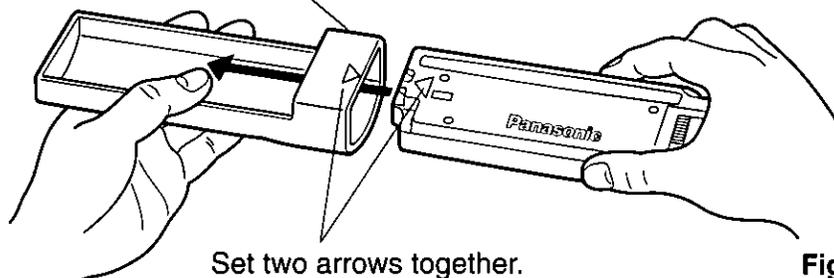

Fig.3
- ④ As shown in Fig.3, insert the removable face plate with the arrow pointing toward the removable face plate case until you hear a "click". Keep the removable face plate in the case. Then, you can bring the plate safely.
⑩ Removable Face Plate Case